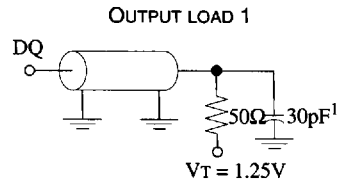

Fig. 1
OUTPUT LOAD	Fig. 1 & 2
2. TEST CONDITIONS AS SPECIFIED WITH OUTPUT LOADING AS SHOWN IN FIG. 1 UNLESS OTHERWISE NOTED.